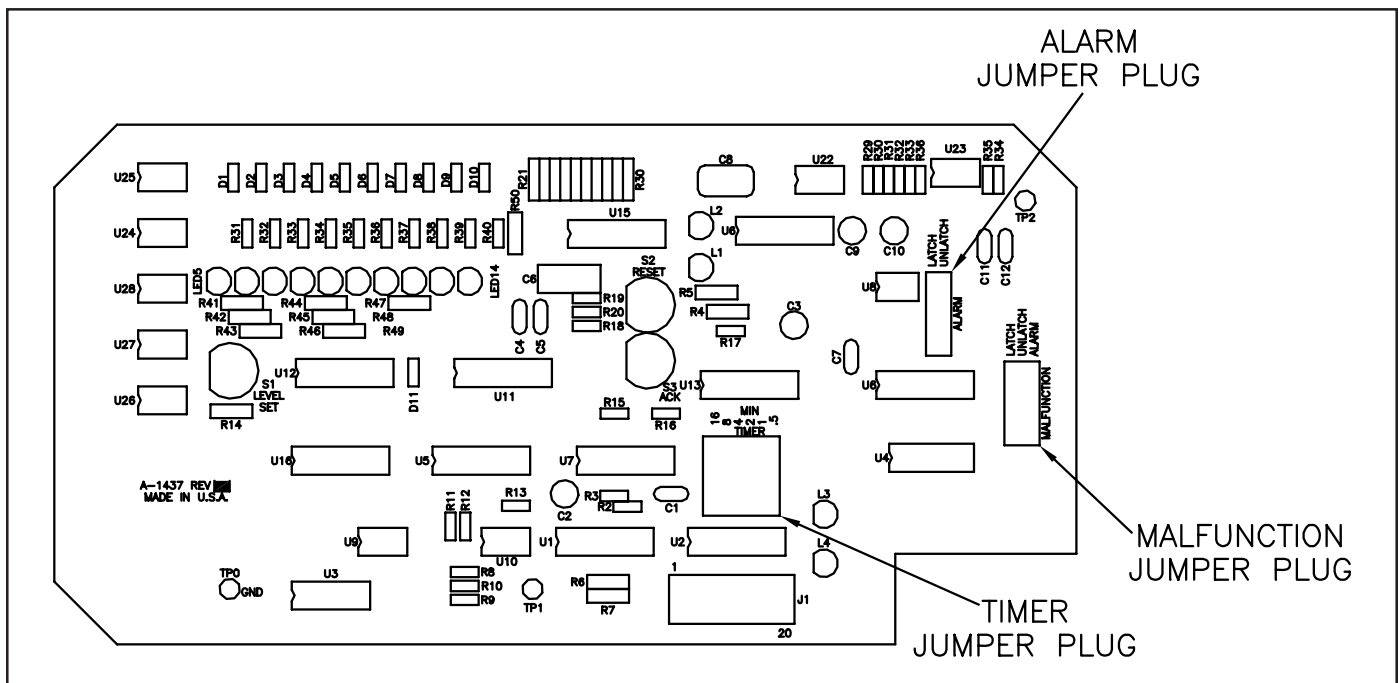

Figure 7 - Model 1610B Front Printed Circuit Board
- e. Position the **TIMER** jumper plug, and for the Model 1620B, also the **SCAN RATE** jumper plug, for desired operation. Both jumper plugs are located on the front printed circuit board. Refer to Figures 7 and 8.
## 3.1 Start-up (Refer to Figures 7 and 8)